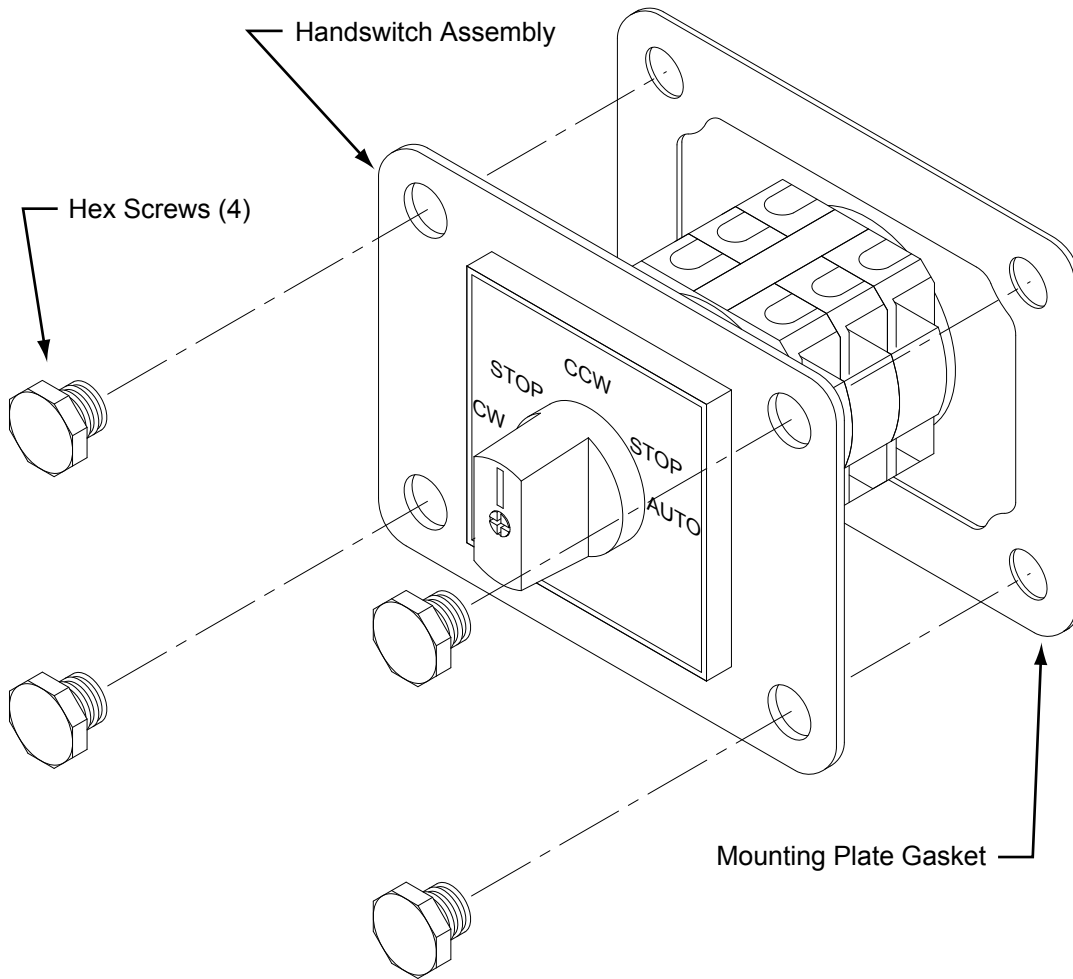

Figure 1
Refer to Figure 1 for component identification.
9. Slide the new Handswitch assembly into the body opening while avoiding pinching, crimping, or scraping any of the wires. Ensure that the Handswitch assembly is oriented as depicted in Figure 1 (CCW label at the top). Fasten the assembly into place with the 5/16-18 bolts, tightening them to 10 lb-ft.